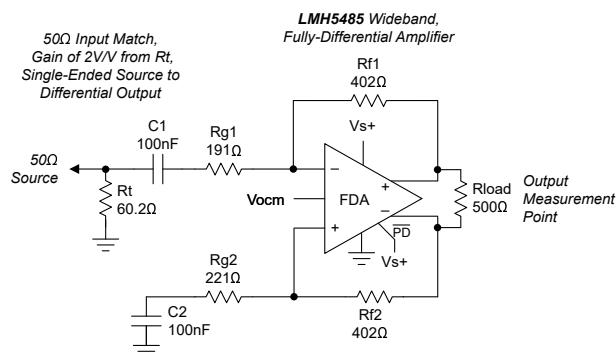
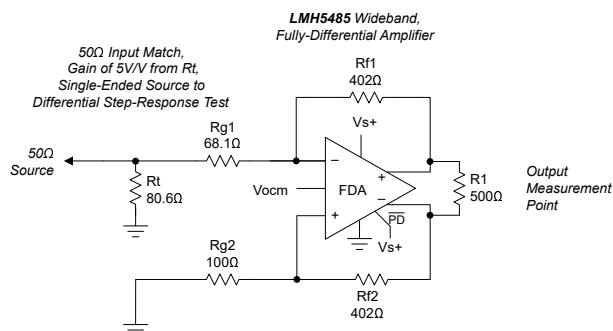

Figure 7-1. AC-Coupled, Single-Ended Source to a Differential Gain of a 2V/V Test Circuit
Figure 7-2. DC-Coupled, Single-Ended-to-Differential, Basic Test Circuit Set for a Gain of 5V/V
Single-ended input to differential output, simulated differential output impedance, see Figure 7-1
Single-ended input to differential output, gain of 2 (see Figure 7-1), simulated with 1% resistor, worst-case mismatch
Single-ended to differential, gain of 2 (see Figure 7-1) PSRR simulated to differential output
Average Vocm output offset of 37 units, standard deviation < 2.5mV, see Figure 7-2
Single-ended to differential gain of 2 (see Figure 7-1), PSRR for negative supply to differential output (1kHz simulation)
Single-ended to differential gain of 2 (see Figure 7-1), PSRR for positive supply to differential output (1kHz simulation)
The LMH5485-SP offers the advantages of a fully differential amplifier (FDA) design, with the trimmed input offset voltage of a precision op amp. The FDA is an extremely flexible device that provides a purely differential output signal centered on a settable output common-mode level. The primary options revolve around the choices of single-ended or differential inputs, ac-coupled or dc-coupled signal paths, gain targets, and resistor Value selections. Differential sources can certainly be supported and are often simpler to both implement and analyze. Figure 7-1 and Figure 7-2 show examples of both ac and dc coupled single-ended to differential circuits.
Figure 7-1 shows how most characterization plots fix the R_f value at 402Ω. This value is completely flexible in application, but the 402Ω provides a good compromise for the issues linked to this value, specifically:
- Added output loading. The FDA appears like an inverting op amp design with both feedback resistors as an added load across the outputs (approximate total differential load in Figure 7-1 is $500\Omega \parallel 804\Omega = 308\Omega$).
The outputs offer near rail-to-rail output swing (0.2V headroom to either supply), while the device inputs are negative rail inputs with approximately 1.2V of headroom required to the positive supply. Figure 7-2 shows how this negative rail input directly supports a bipolar input around ground in a dc-coupled, single-supply design. Similar to all FDA devices, the output average voltage (common-mode) is controlled by a separate common-mode loop. The target for this output average is set by the Vocm input pin that can be either floated to default near midsupply or driven to a desired output common-mode voltage. The Vocm range extends from a very low 0.91V above the negative supply to 1.1V below the positive supply, supporting a wide range of modern analog-to-digital converter (ADC) input common-mode requirements using a single 2.7V to 5.4V supply range for the LMH5485-SP.
Going to the device input pins side, because both the source and balancing resistor on the nonsignal input side are dc blocked (see Figure 7-1), no common-mode current flows from the output common-mode voltage, thus setting the input common-mode equal to the output common-mode voltage.
The output considerations remain the same as for the ac-coupled design. Again, the input can be dc-coupled while the output is ac-coupled. A dc-coupled input with an ac-coupled output can have some advantages to move the input Vicm down if the source is ground referenced. Figure 7-2 shows how when the source is dc-coupled into the LMH5485-SP, both sides of the input circuit must be dc coupled to retain differential balance. Normally, the nonsignal input side has an R_g element biased to whatever the source midrange is expected to be. Providing this midscale reference gives a balanced differential swing around Vocm at the outputs.